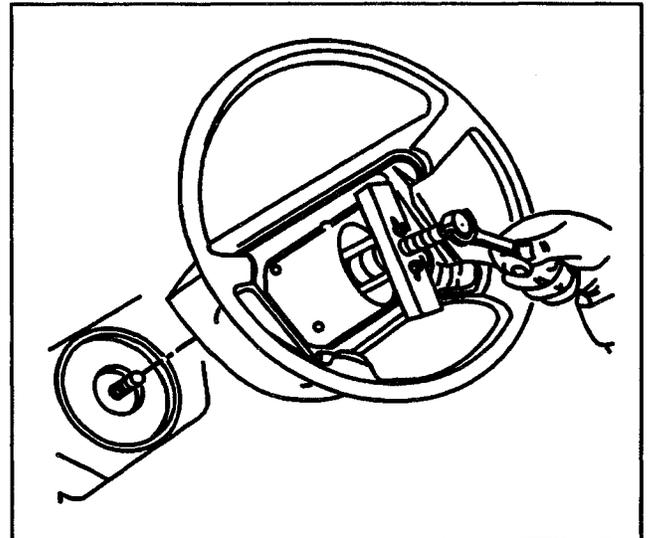

Figure 5—Steering Wheel Removal
7. Steering wheel using J 1859-A (Figure 5).